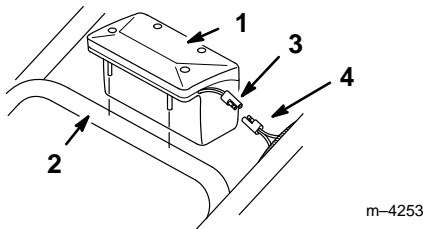

Figure 6
2. Align the pins in the battery case with the holes in the lower handle and lower the pins into the holes until the battery case snaps into place (Fig. 6).
3. Connect the wire lead from the battery to the wire lead from the electrical wire harness in the corrugated tube (Fig. 6).